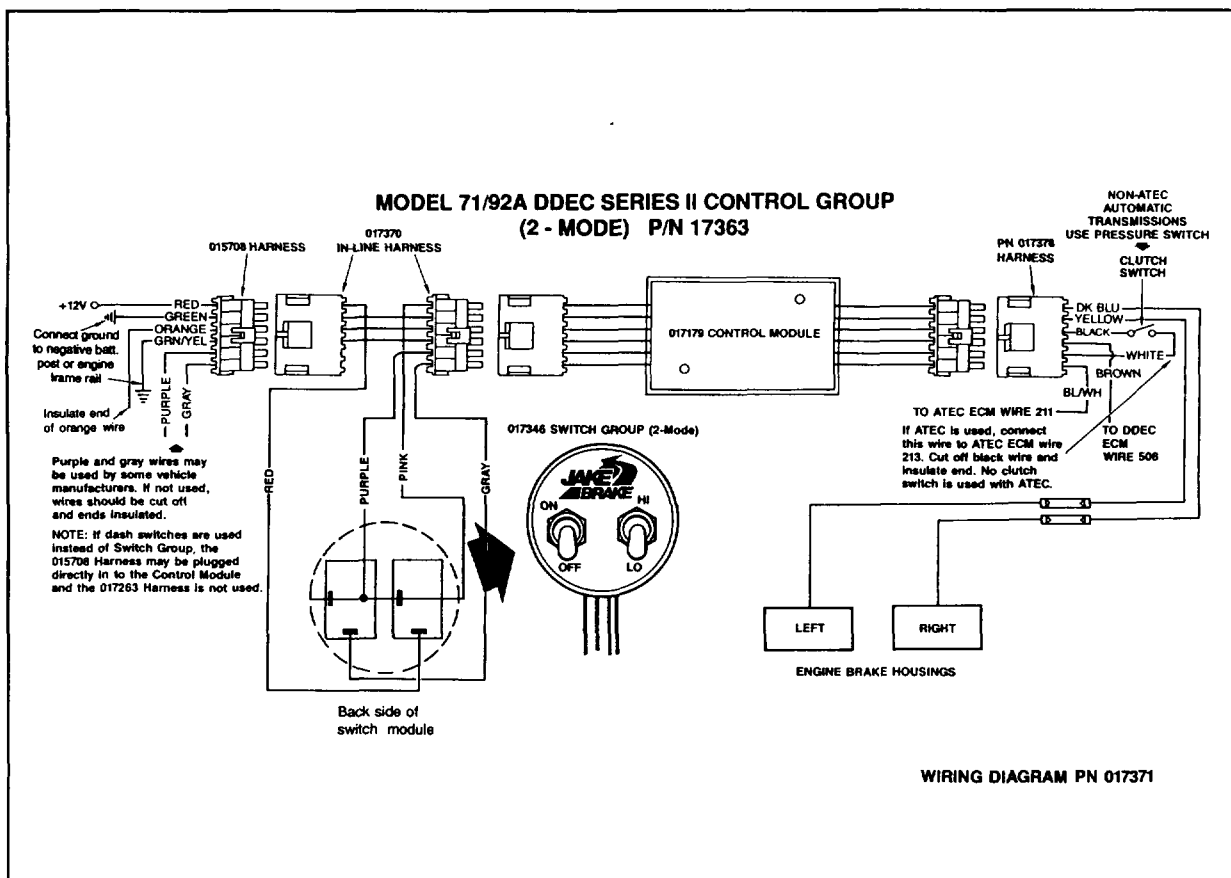

Fig. 43
5. The dark blue wire and yellow wire are connected with butt splices to the harness that goes through the cylinder heads to the solenoid valves. See Fig. 43.